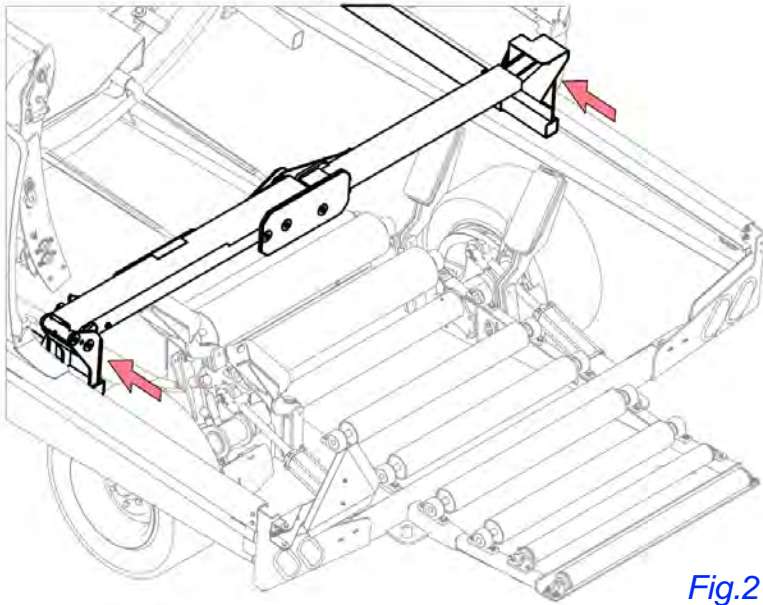

Fig. 2
2. Insert right dispatch arm pocket into right ram tube. Lock with existing bolt and nut. See Fig. 2.